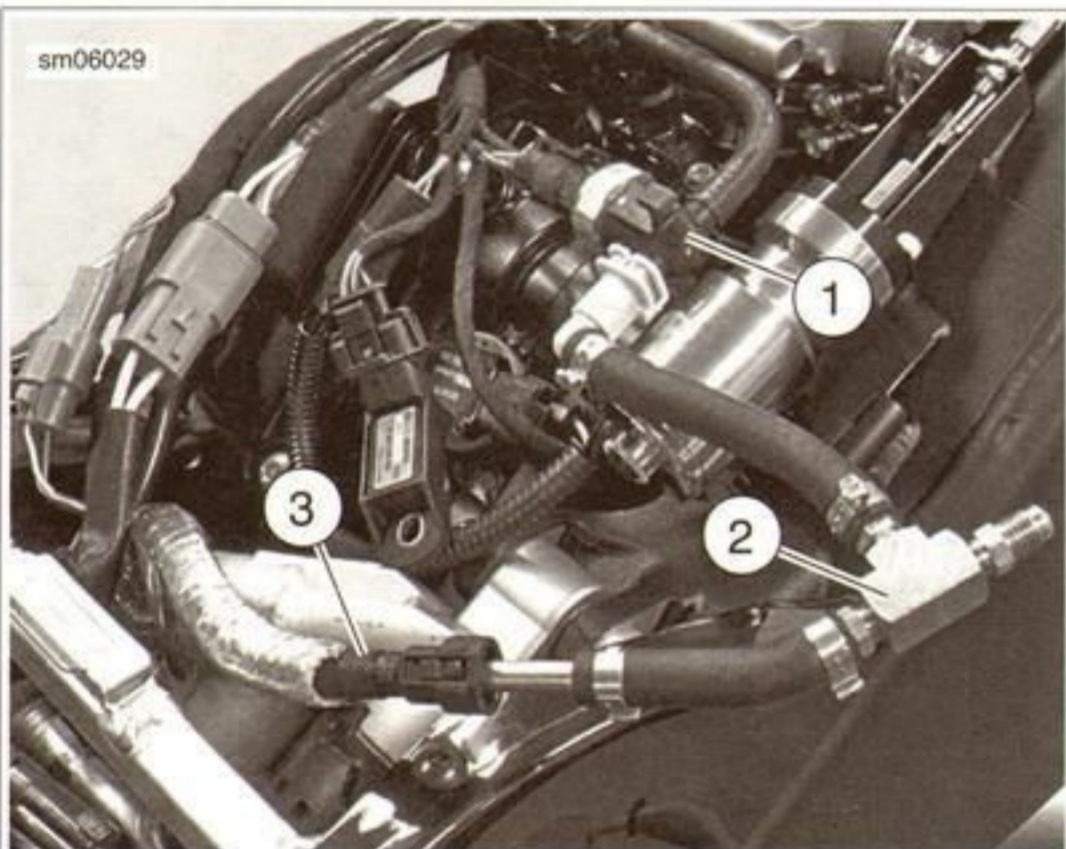

Figure 4-63. Fuel Line Connector
3. See Figure 4-63. Press button of fuel line connector and disconnect the fuel line from throttle body inlet.